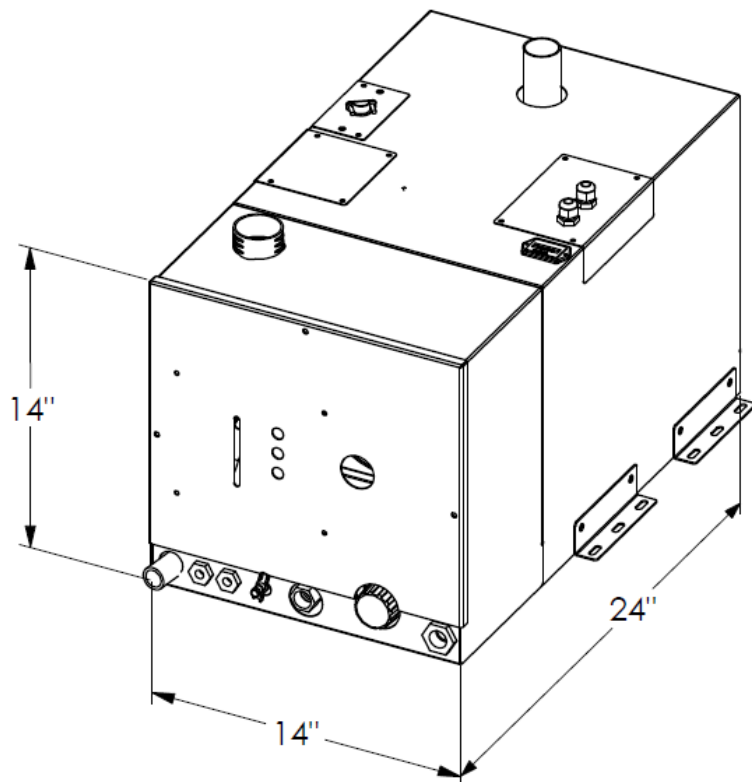

Figure 2-1: Dimensions
- The WindowWasher™ by ITR is 14"H x 14"W x 24"D (35.6 cm x 35.6 cm x 60.9 cm). See *Figure 2-1: Dimensions*.